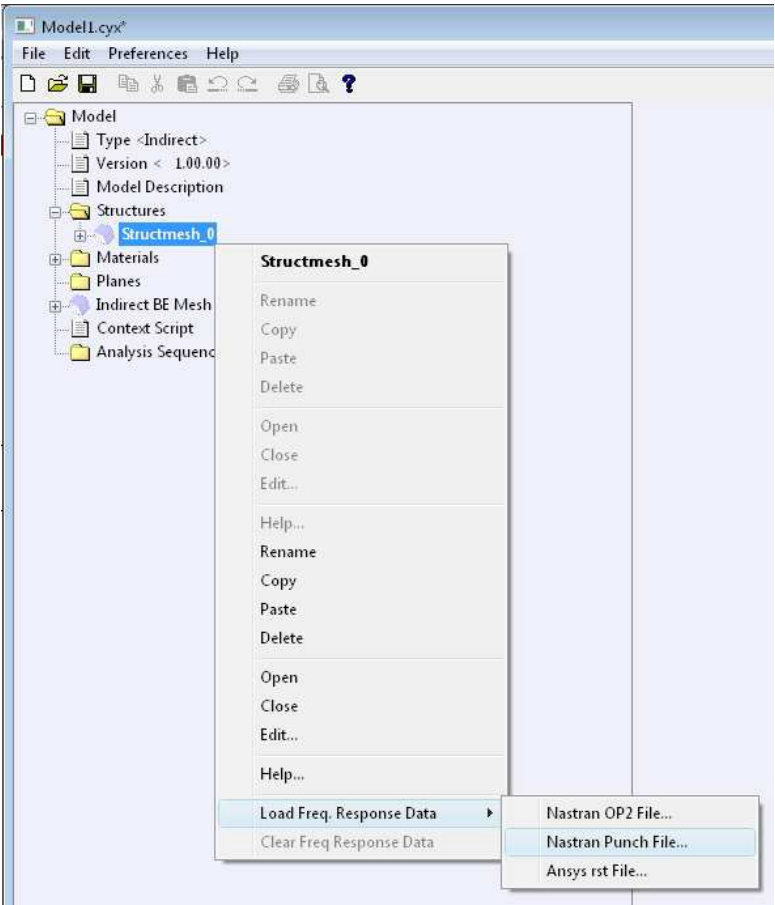

Figure 9.30: Load frequency response data into Coustyx.
- Right-click on **Structmesh_0** or *<Struct Mesh Name>* and select: **Load Freq Response Data** → **Nastran Punch File...** (as shown in Figure 9.30). The other valid data formats from which frequency response data can be loaded into Coustyx are **Nastran OP2 File** and **Ansys rst File**.